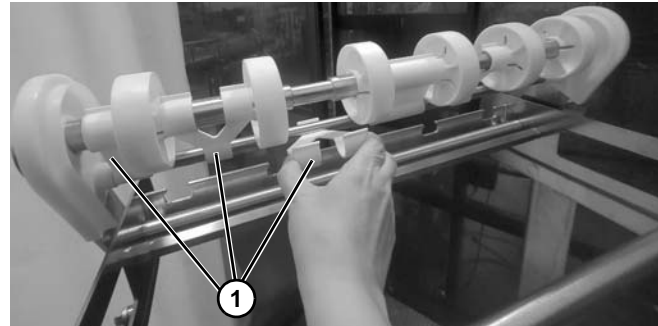
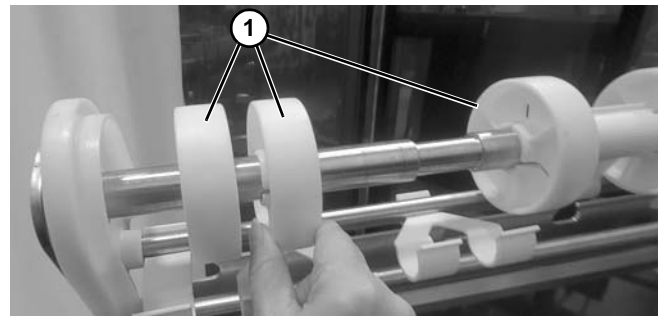

Figure 55
Figure 56
- Idler End:** Clean idler tail and pucks, disengage puck spacers (**Figure 55, item 1**), slide idler pucks (**Figure 56, item 1**), and clean again. (**NOTE:** Belt shown removed in images for idler end and drive tail for clarity only.)